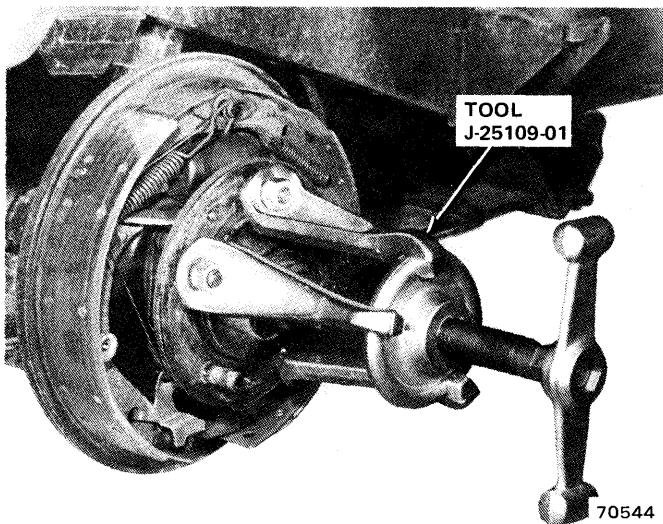

Fig. 10-17 Removing Rear Axle Hub—CJ Models
- (1) Remove axle shaft dust cap.
- (2) Remove axle shaft nut and washer.
- (3) Raise and support vehicle.
- (4) Remove wheel and tire.
- (5) Remove screws attaching brake drum to rear hub and remove drum.
- (6) Install Puller Tool J-25109-01 on axle hub and remove hub (fig. 10-17).